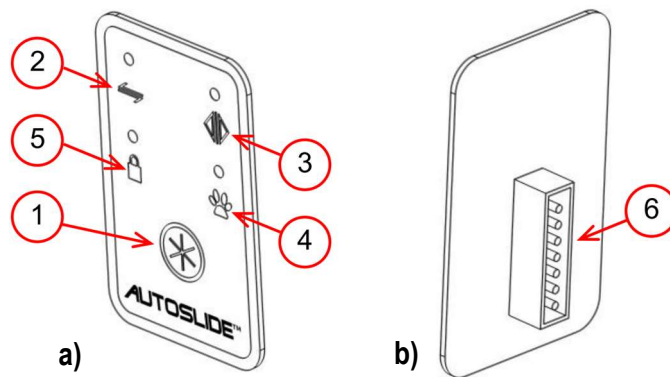

Figure 41: (a) The front of the mode pad, and (b) back of the mode pad with 7-pin connector.
The mode pad (Figure 41) allows users to cycle between four different modes of operation by pressing the mode button (1). The four modes displayed on the mode pad are:
- **auto mode** (2): the door opens automatically
- **hold-open mode** (3): the door is held open
- **pet mode** (4): the door opens a customized width to allow a pet to pass through
- **lock mode** (5): the door is locked with an electric lock (if fitted).